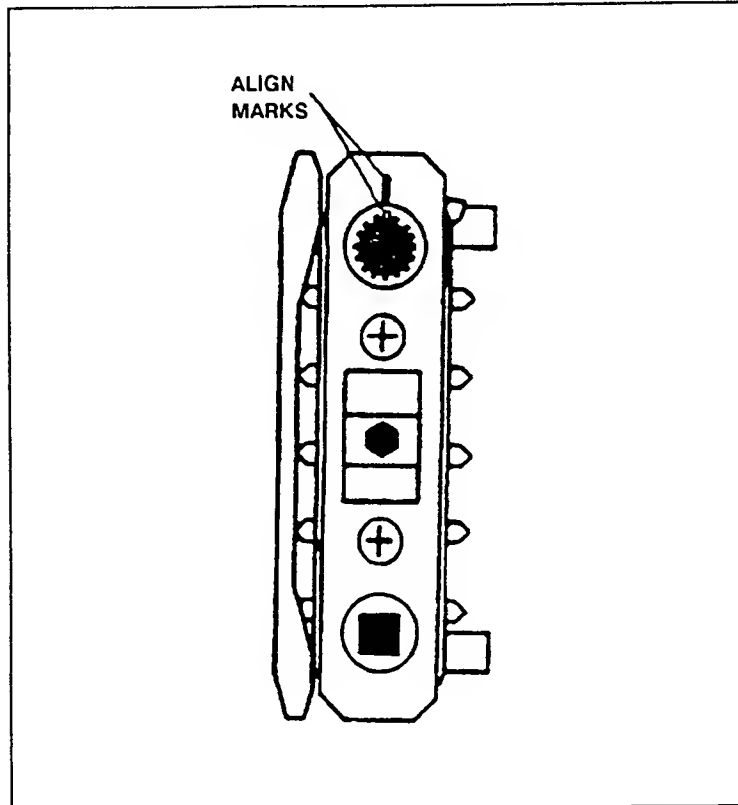

Figure 6-12. Tractor Alignment Marks
- b. Align the rubber alignment mark on the splined hole of each tractor with the top mark on the tractor body (see Figure 6-12). Slide the splined tractor drive shaft through each tractor, making sure that the marks are aligned with the same groove on the shaft on both tractors.